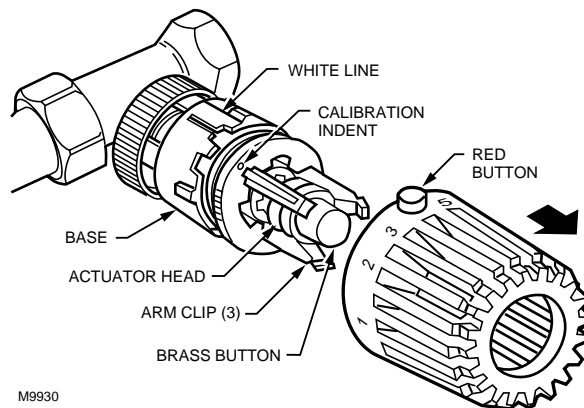

Fig. 13. Removing adjustment knob.
3. Remove adjustment knob (light tan) from actuator base as follows (see Fig. 13):
- For actuator recalibration, gently turn the actuator head clockwise (Fig. 13) until it stops. Turn the actuator head approximately one revolution counterclockwise until the calibration indent on the head aligns with the white line on actuator base. This is approximately 3/8 in. travel of the actuator head from the base.